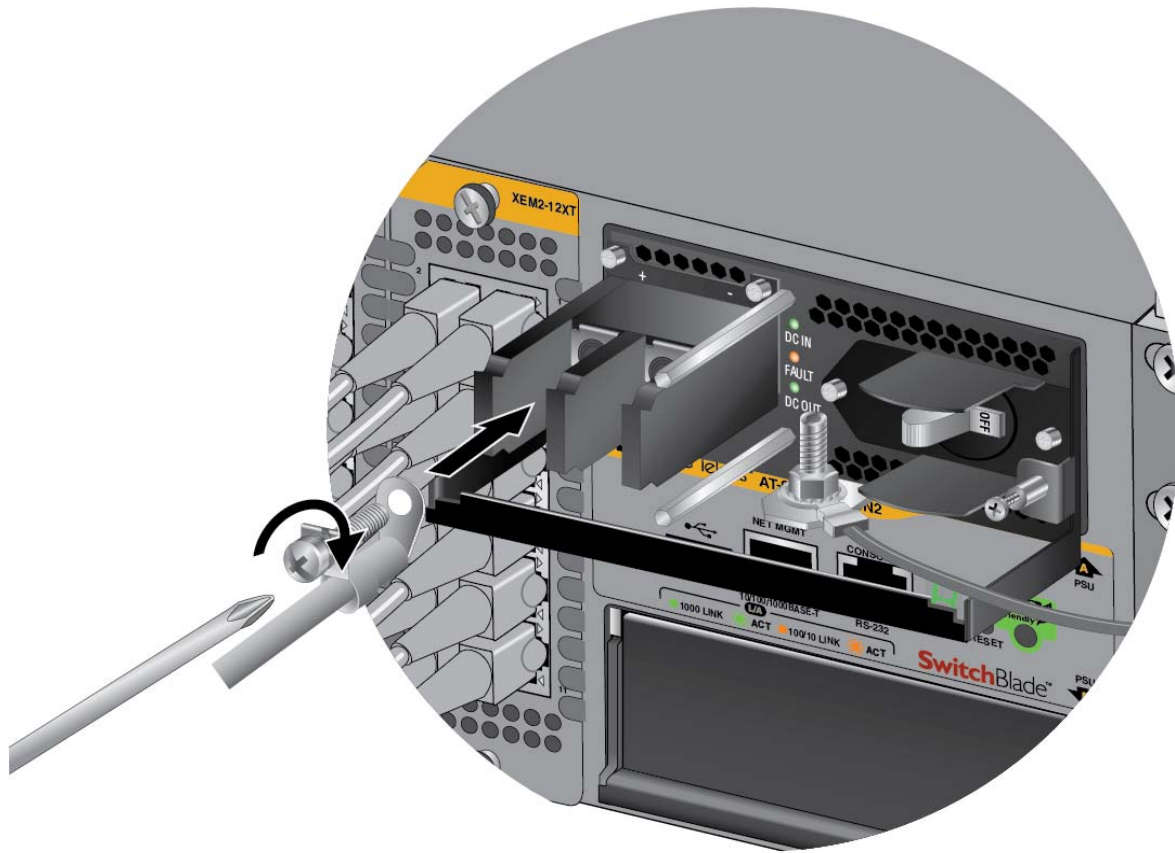

Figure 79. Connecting the Positive (+) Power Wire with a Right Angle Terminal
6. With a #3 Phillips-head screwdriver, connect the positive (+) power lead wire to the positive terminal on the power supply, with one of the terminal screws removed in the previous step. The positive terminal is on the left. Refer to Figure 79 on page 114.